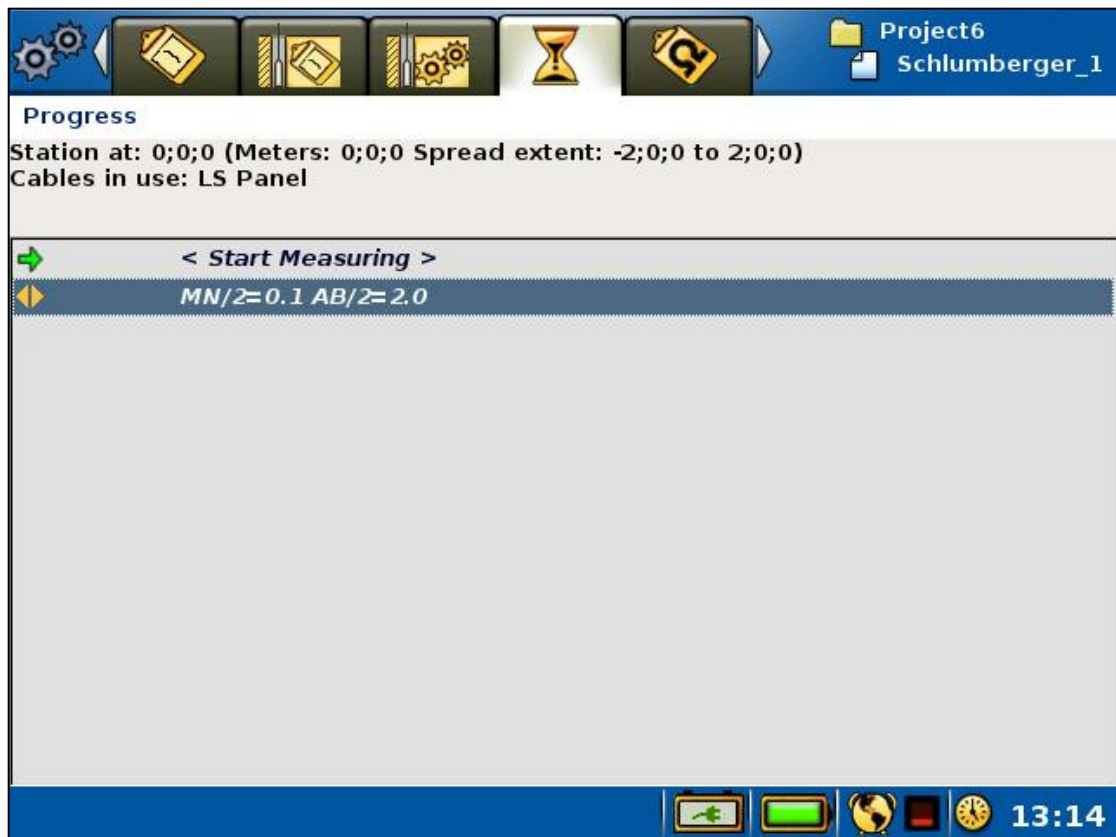
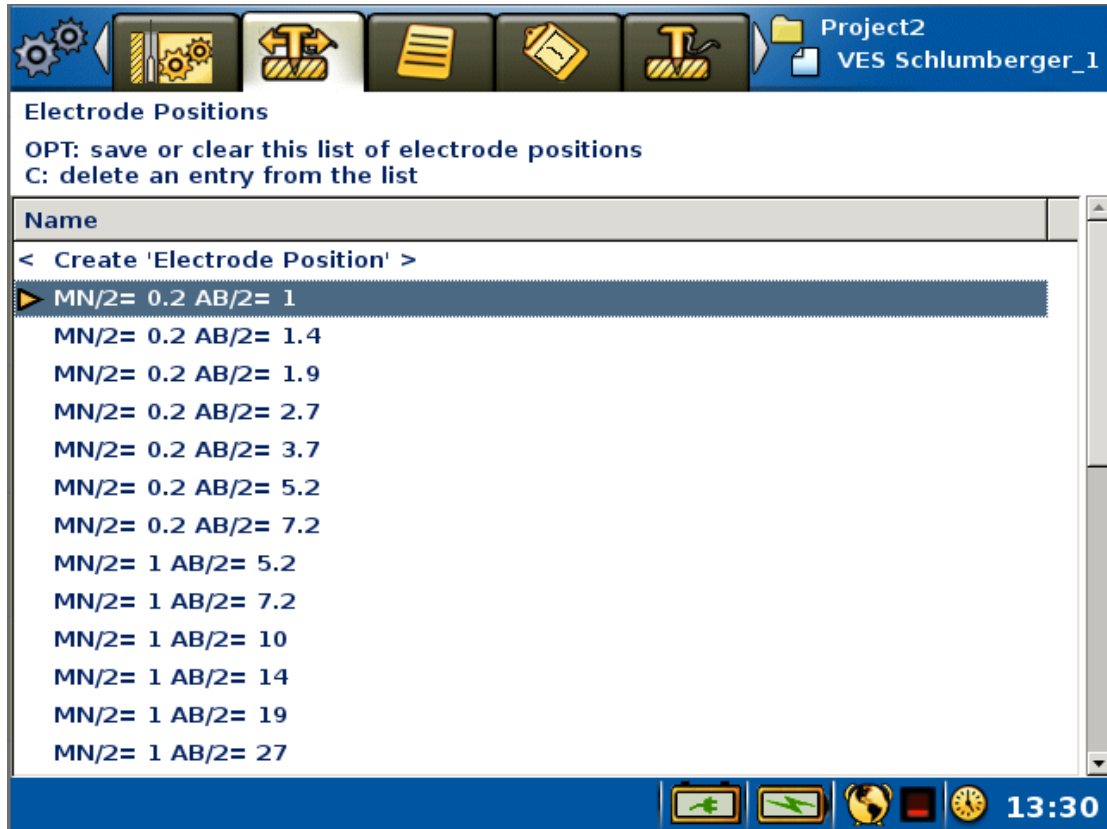

Figure 72 The Progress Page in VES mode
Figure 73 *Electrode Positions Page in VES mode. Highlight bar (blue) and active electrode position marker (yellow) both on the second row*
- The “Measure/Progress” Page (Figure 72) will be used to start and stop measurements as usual. Choosing which of the predefined electrode positions to measure from can also be set from this Page.
- The “Measure/Electrode Positions” Page (Figure 73) displays a list of all the possible electrode positions that are predefined in the active Task. The electrode positions can be set manually (and a new temporary electrode position created) from this Page.
In VES mode, with a Schlumberger protocol selected, a line with a “MN/2 and AB/2” electrode position will be shown on the *Progress Page* (Figure 72). This is the active electrode position, and it can be changed using the left and right arrows. It is thus possible to step through all available electrode positions that are pre-defined in the protocol file; measurements do not necessarily need to be undertaken at every interval.
The *Electrode Positions Page* (Figure 73) lists all the electrode positions from the protocol file. The yellow arrow is placed on the line that corresponds to the active electrode position. This electrode position is the one that is shown on the second row of the *Progress Page* (Figure 72). The *Electrode Positions Page* will be empty when the instrument is not in VES mode.
- Navigate to the “Measure/Electrode Positions” Page (Figure 73)